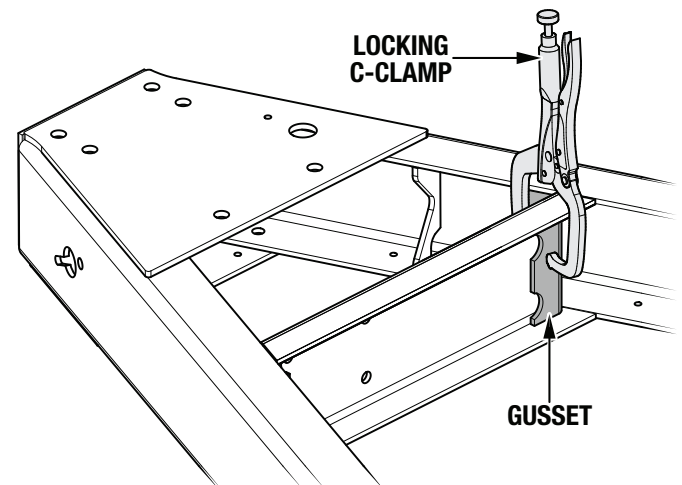

Figure 5. Secure Gusset with Clamp
2. Once the gusset is correctly positioned, secure it in place with a locking C-clamp as shown in Figure 5.